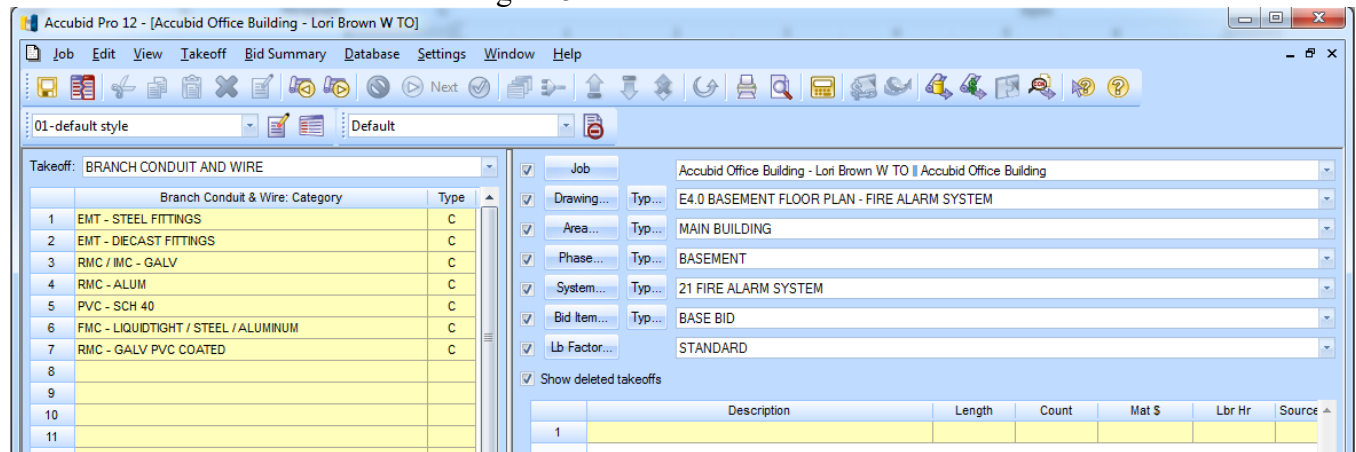

Figure 5
2. Set the Breakdown as shown in Figure 5